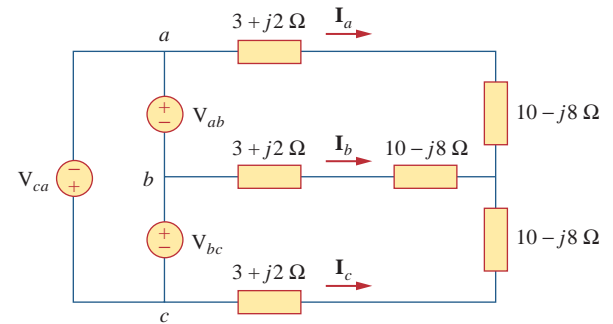

Figure 12.54
12.25 In the circuit of Fig. 12.54, if $V_{ab} = 220 \angle 10^\circ$, $V_{bc} = 220 \angle -110^\circ$, $V_{ca} = 220 \angle 130^\circ$ V, find the line currents.